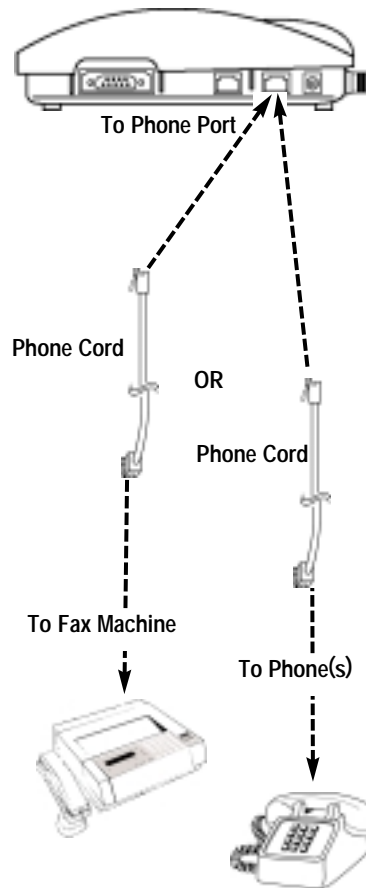

Figure 8: Single Port
- 2) Connect the other end of the cord to the phone port (marked **PHONE**) on the side of your Phonecell SX4e - see **Figure 8**.